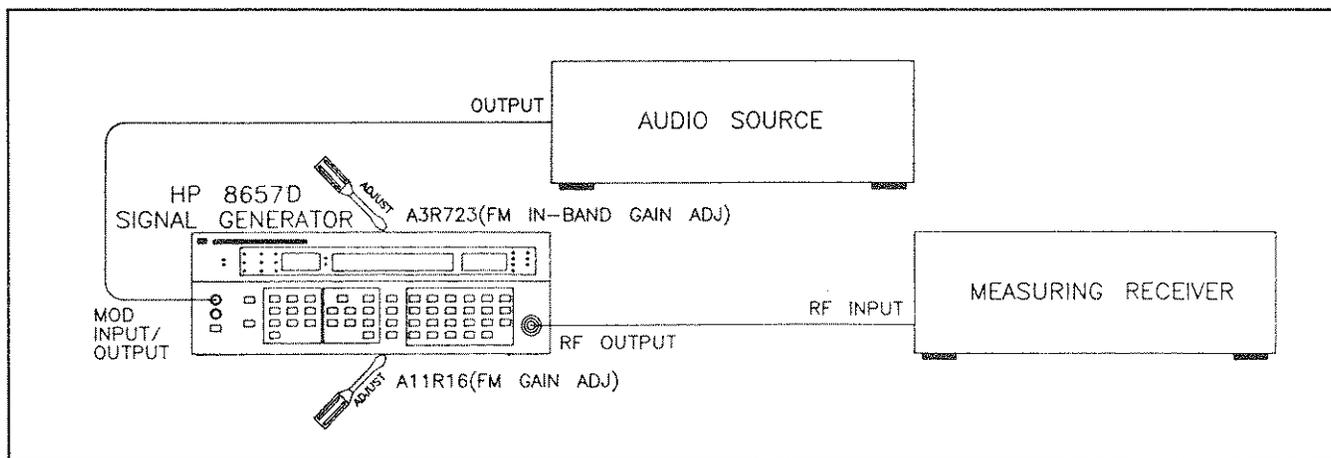

Figure 5-21. FM In-band Gain Adjustment Setup
4. Connect the HP 8657D RF OUTPUT to the measuring receiver INPUT, and the HP 8657D MOD INPUT/OUTPUT to the audio source OUTPUT as shown in Figure 5-21. The HP 8657D LO EXT and HI EXT LED's should be out. Also insure that the HP 8657D INT 1 kHz modulation source is turned off.